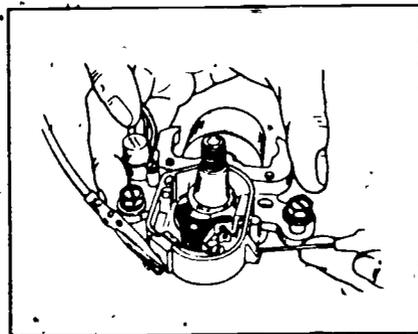

FIGURE 8
7. Rotate stator plate until test light goes out (Figure 8)